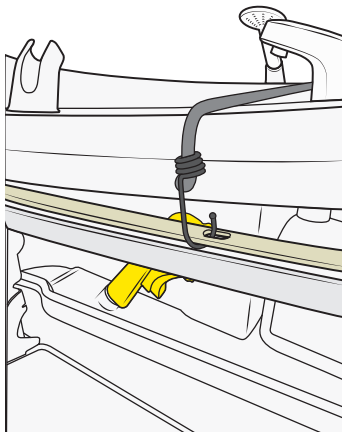

Figure 103
7. Secure the outer cover with a strap in the hole above the disinfectant compartment to prevent it from falling down. Use a 760 mm (30 in) long strap. See Figure 103.